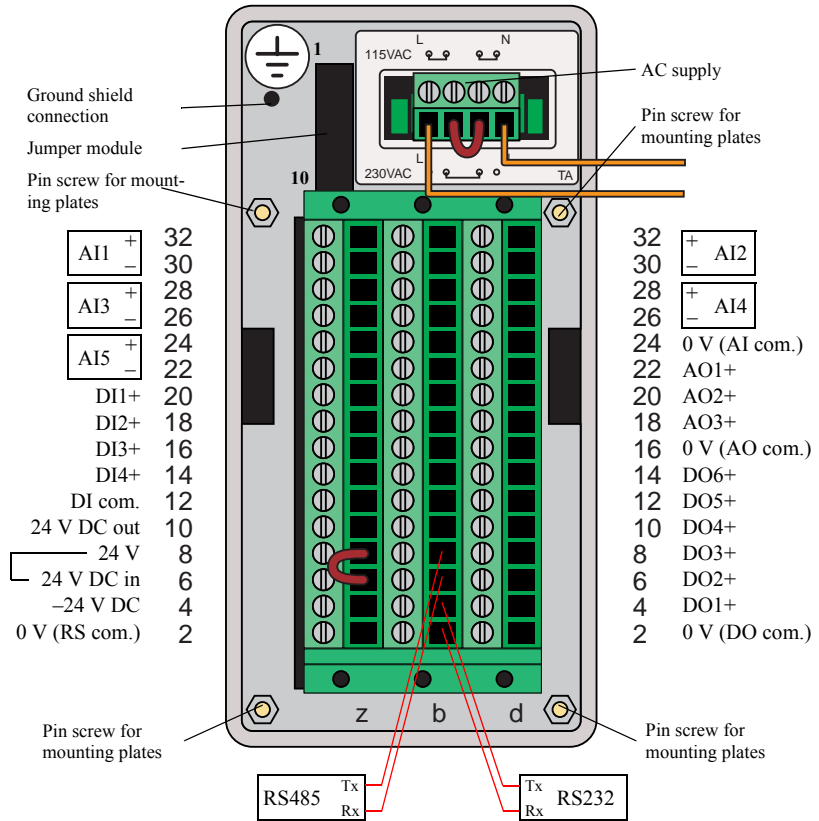

Figure 9 Cassette Terminal Blocks.
Installation of the controller in an electrically noisy environment is described at the end of this section. The electrical connections can be made either before or after the cassette is mounted in the panel. The terminal blocks at the rear of the cassette are shown in Figure 9.
- 2 Connect jumpers and cable to the supply terminals at the rear of the cassette as follows (see also Figure 9):